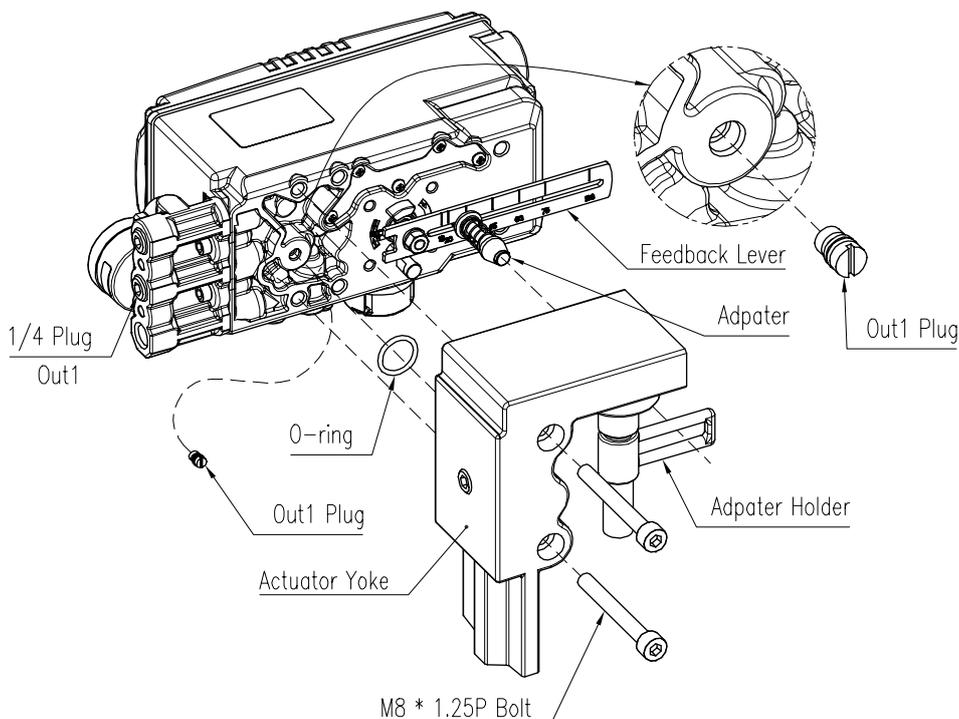

Fig. 3-20: Installing the positioner on the actuator
- 1) Remove Out1 Plug(Fig. 3-20) on the bottom of the positioner. Plug up out1 port of gauge block with 1/4 plug using sealant.